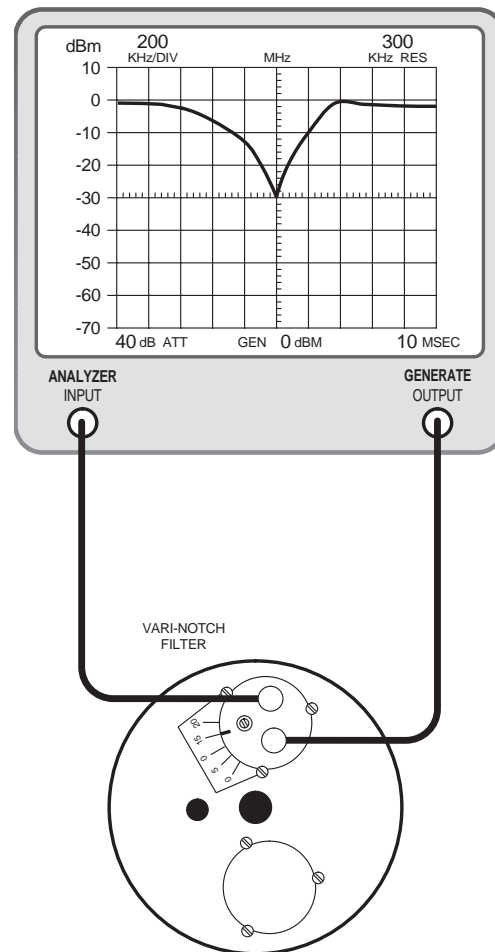

Figure 5: Checking the rejection notch.
1. The rejection notch is checked by connecting the tracking generator to the input of the cavity filter while the spectrum analyzer is connected to the output, as illustrated in figure 5.